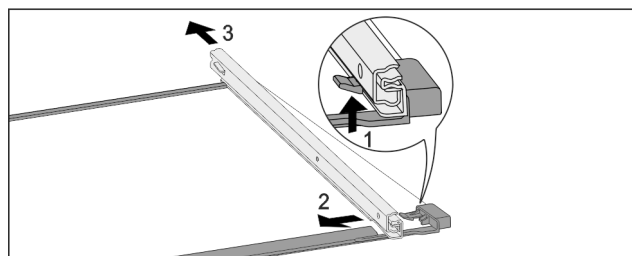

Fig. 172 Glass shelf with rails
- Push up front click-in hooks. Fig. 172 (1)
- Move the pull-out rails to the side Fig. 172 (2) and to the rear Fig. 172 (3).